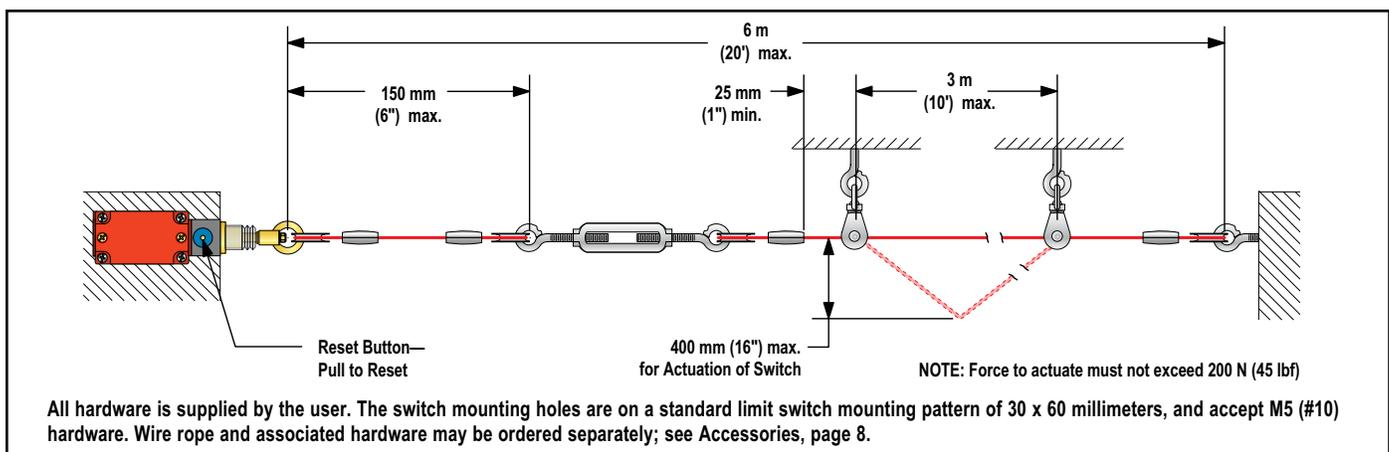

Figure 2. Assembly of rope and hardware
The two switch models differ in their switching operation. Model RP-LM40D-6 is a momentary switch, which returns immediately to the Run condition (i.e., both contacts close) after releasing the rope, following a Pull condition; when using this model, a separate latching circuit is required. Model RP-LM40D-6L latches contacts 25–26 open with each Pull condition, and must be reset by pulling the integral reset button (see Figure 2).
3. Assemble the rope as shown in Figure 2. Keep the rope's PVC cover intact along its complete length.